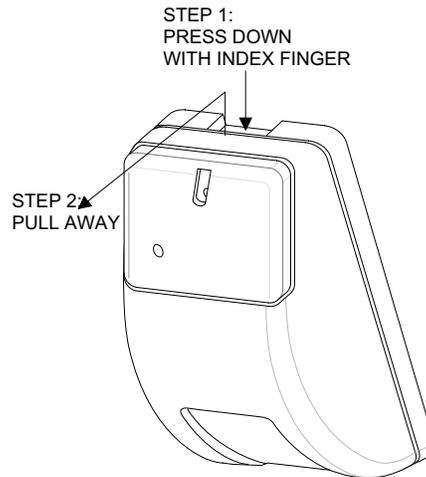

Figure 5. Opening the Sensor Housing
2. Open the sensor housing by pressing down on the top rear and pulling the front cover at the top (see Figure 5). Set the front cover aside.